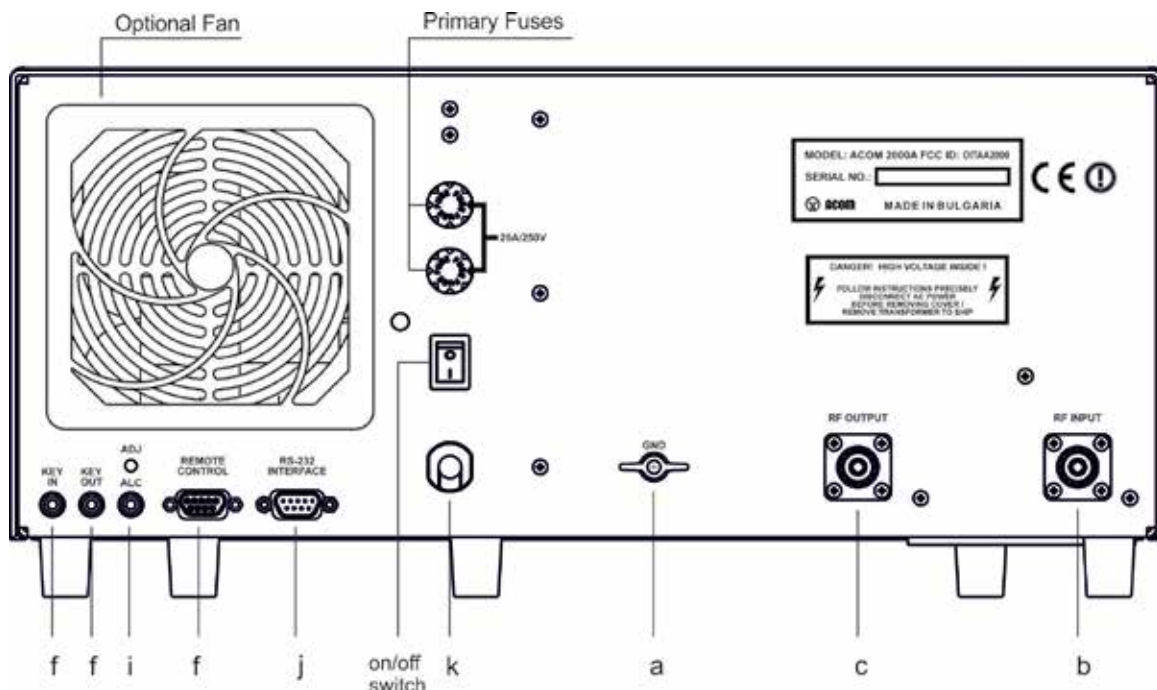
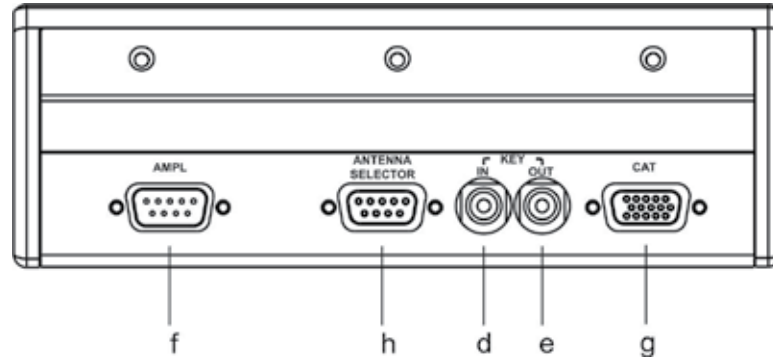
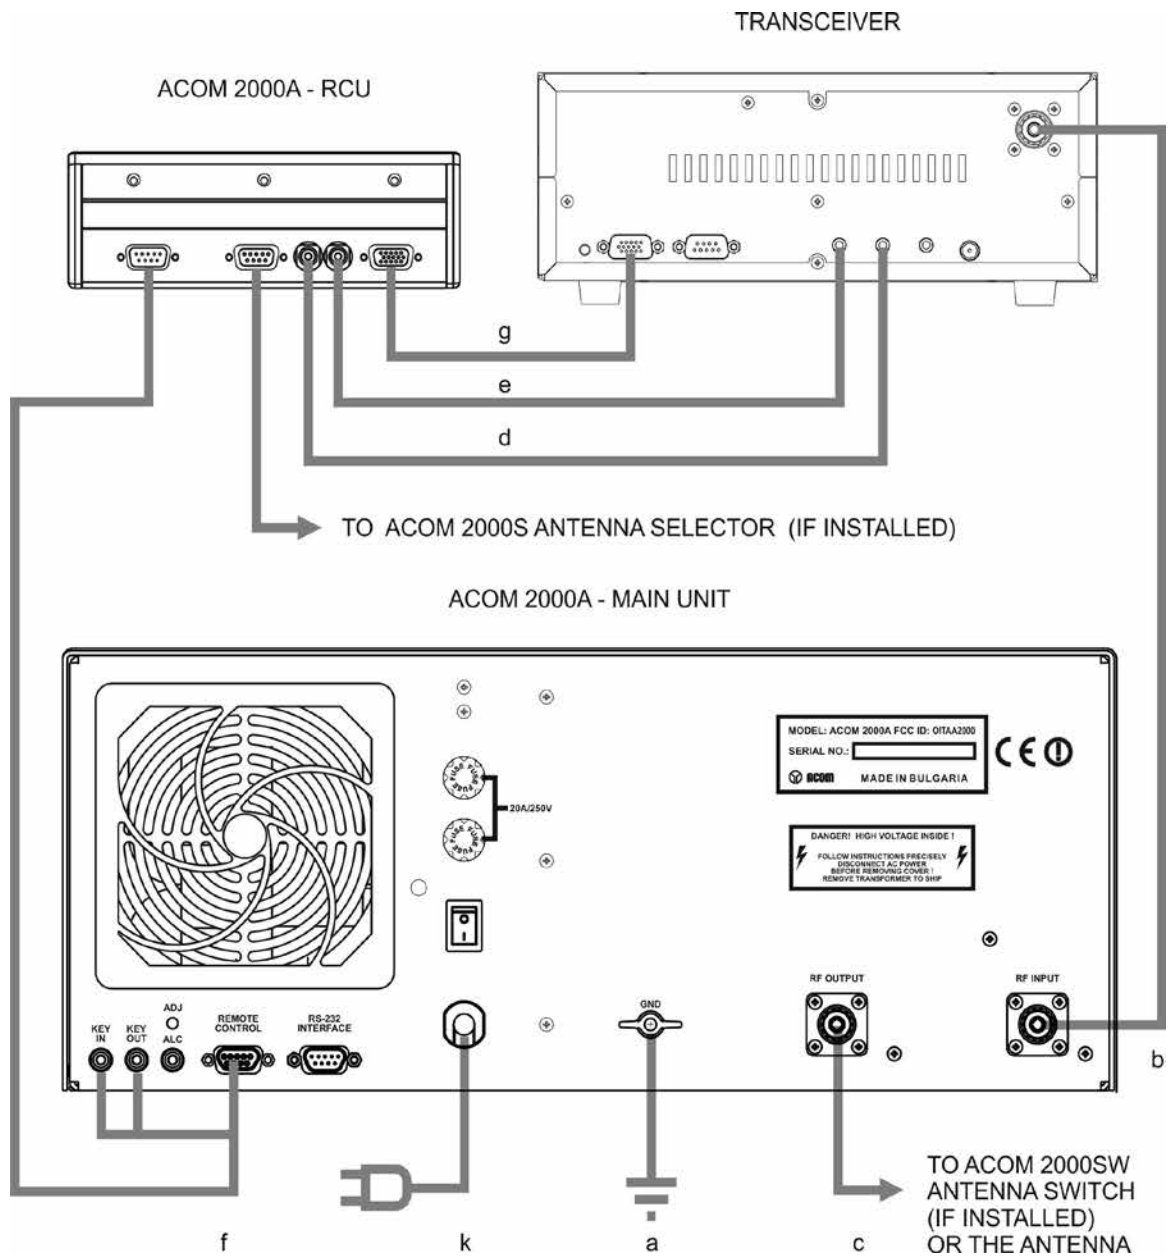

Fig. 2-2 Amplifier Main Unit Connections
Fig.2-3 Amplifier Remote Control Unit Connections
Fig.2-4 Main Unit, RCU, Antenna Selector, and Transceiver connections
a) Connect the ground stud of the amplifier Main Unit (on the rear panel, marked GND) to the station's grounding system (Fig.2-2, Fig.2-3 & Fig 2-4).
This fan is not necessary in SSB and CW modes, nor in continuous carrier modes (RTTY, SSTV etc.) with carrier down times of maximum 15 minutes and a subsequent pause of 3 minutes. For higher duties the fan is recommended. The auxiliary fan (119x119mm) is supplied as an option with a set of 8 screws, nuts and washers. It may be mounted by the manufacturer or dealer on request (Fig. 2-2). Contact your dealer or see the TECHNICAL SUPPLEMENT for details.
After following all instructions in S.2, you can turn ON the Main power switch on the rear panel (Fig. 2-2). The front-panel red indicator must light and a picture will appear on the RCU (Fig.3-1):
In order to turn on the amplifier, while the rear panel Switch (Fig. 2-2) is on, press the red button on the RCU and hold it on for about one second and you will hear "TEST" being sent in CW.